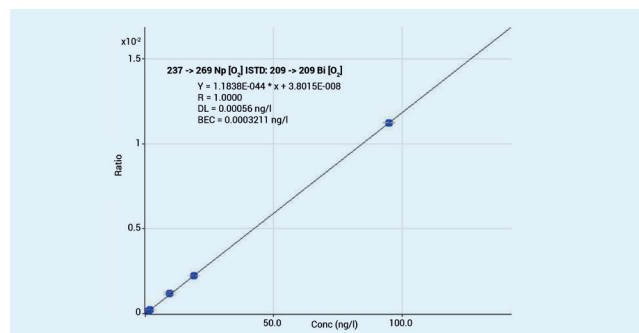

Figure 1. Calibration curve for ^{237}Np as NpO_2 in a 10 ppm uranium matrix.
Figure 1 shows a calibration for ^{237}Np at ng/L levels in the U matrix. The curve coefficient was 1.0000, the Detection Limit (DL) was 0.56 pg/L (ppq) and the Background Equivalent Concentration (BEC) was 0.32 pg/L. The results illustrate the suitability of the 8900 ICP-QQQ for analysis of ultratrace radionuclides in the presence of uranium.